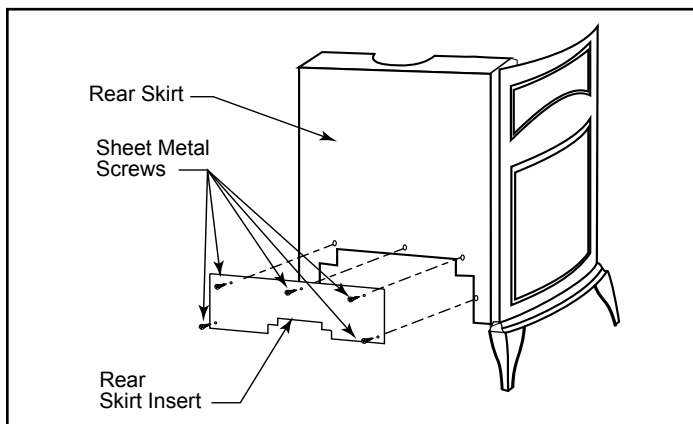
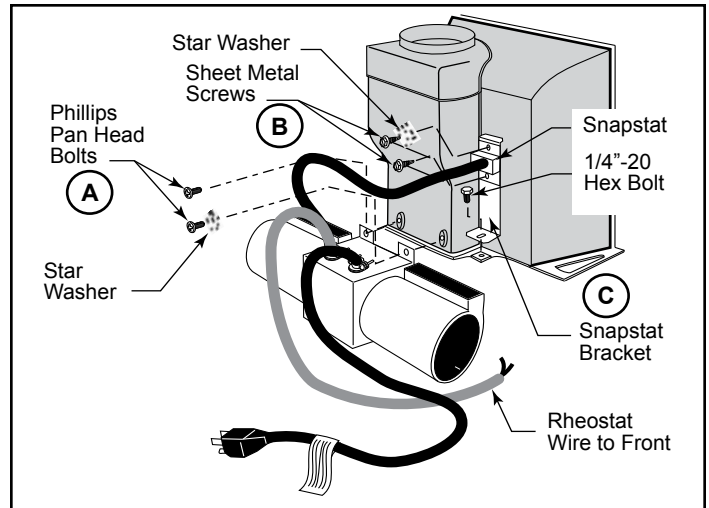

Figure 47 - Remove rear skirt insert.
Figure 48 - Attach the fan assembly and the snapstat.
1. Remove the rear skirt insert panel at the bottom of the rear skirt (Figure 47) and fasten the blower assembly to the firebox back with the two (2) phillips pan head bolts originally installed in the firebox back. ('A', Figure 48)
2. Attach the snapstat assembly to the snapstat bracket with two (2) sheet metal screws. ('B', Figure 48) Attach the snapstat bracket to the stove with a hex head bolt passing through the bracket and into the stove base. ('C', Figure 48)